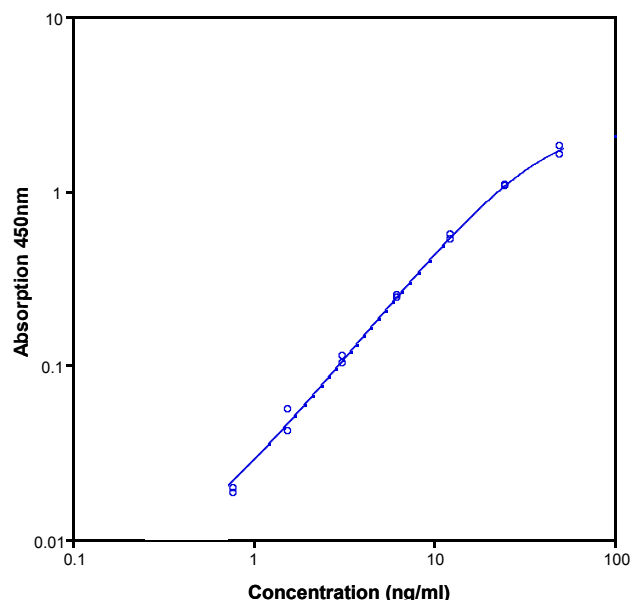

Fig. 8 Representative standard curve for human Annexin V ELISA. Human Annexin V was diluted in serial 2-fold steps in Sample Diluent.
- A representative standard curve is shown in Figure 8.